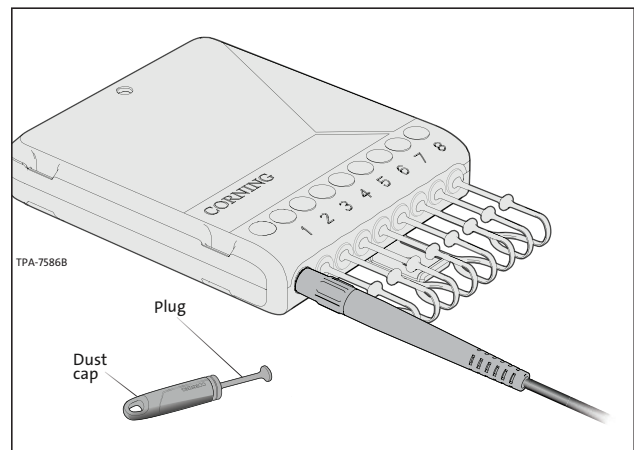

Figure 7
Step 7: Connect the terminal port dust plug with the connector dust cap (Figure 7).